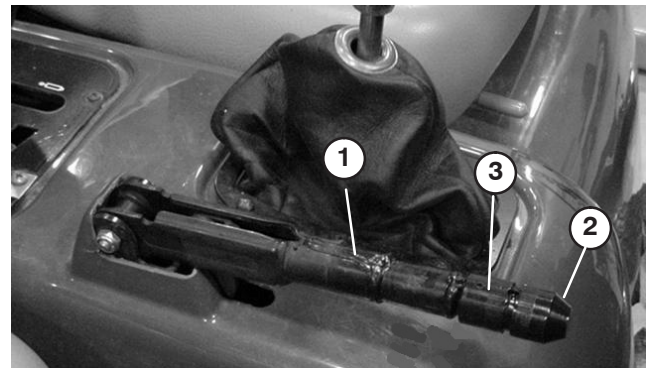

Figure 48
2. Loosen set screw securing knob to parking brake lever (Fig. 48).